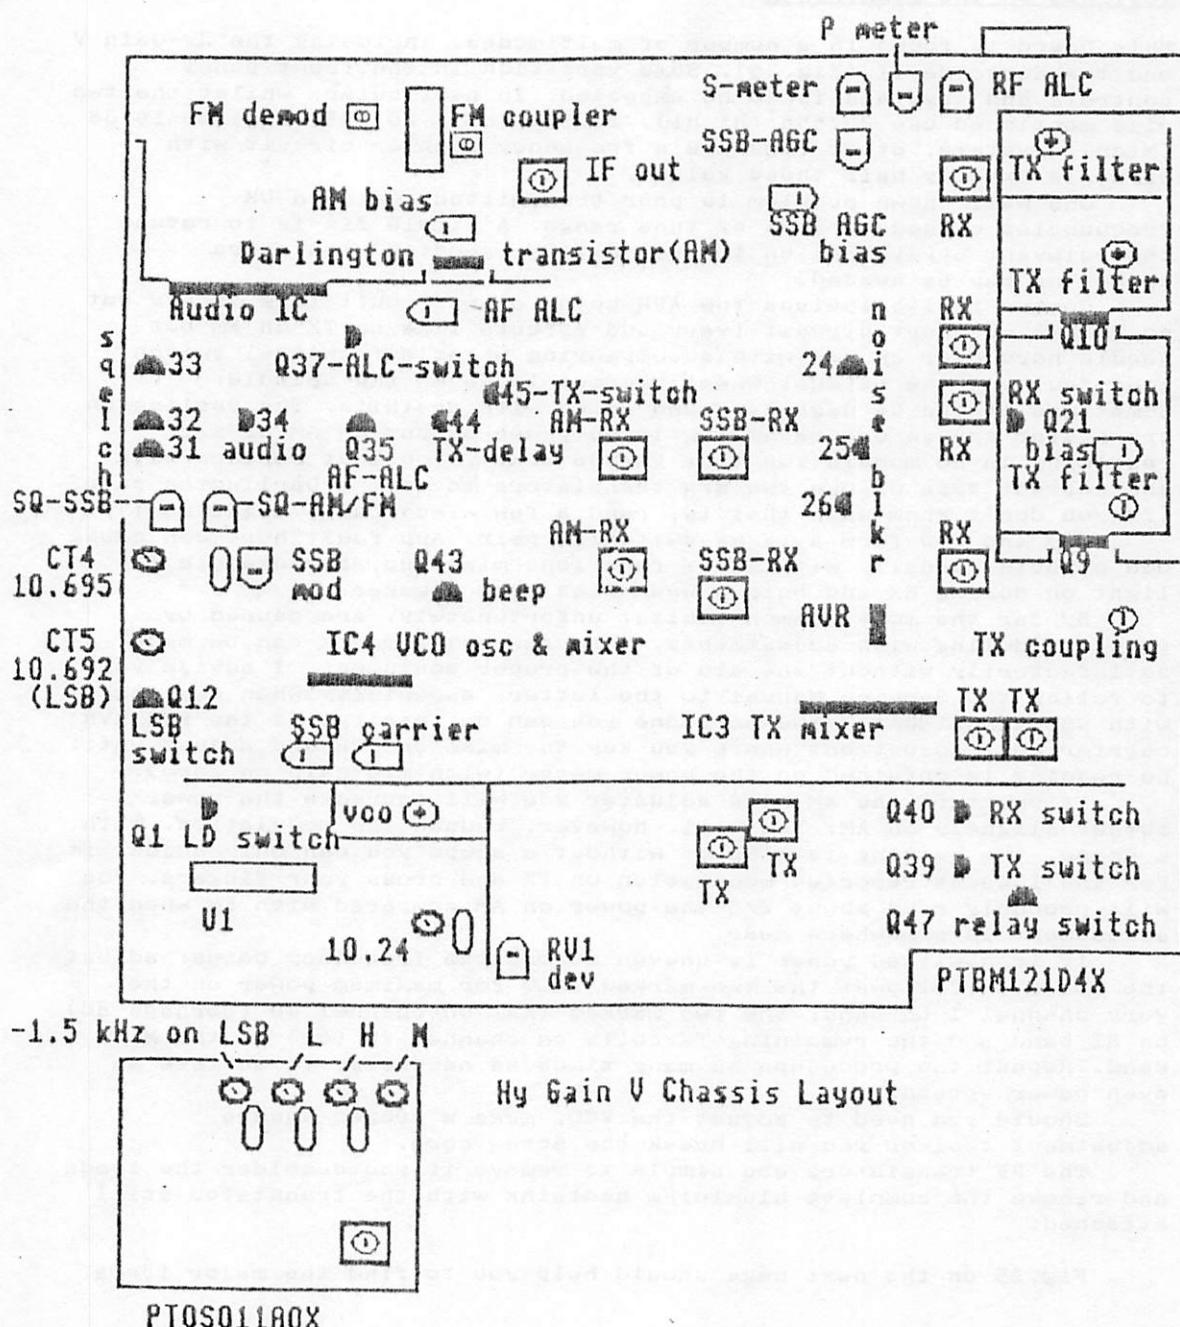

Fig.25
This board is found in a number of multimodes, including the Hy-Gain V and the Concorde II (Fig.25). Some variation in the front panel controls and crystals is to be expected. In particular, whilst the two rigs mentioned use 20.555 (HI HI), 20.330 (HI), 20.105 (FCC) or 19.88 (Midn) crystals, other rigs use a frequency doubler circuit with crystals exactly half these values.
Fig.25 on the next page should help you to find the major items.